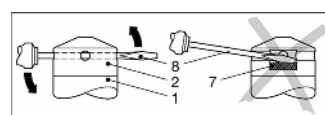

Fig. 2: Removal of protective cap
6. Hold the probe with one hand on the probe section (Fig. 2 – 1).
7. Pull off the protective cap (Fig. 2 – 2) with the other hand.
2. Slide a thin tool (Fig. 2 – 8), e.g. a screwdriver, through two opposite bores of the protective cap (Fig. 2 – 2).
**NOTE** – Do not damage the measuring cell (Fig. 2 – 7) under the protective cap!